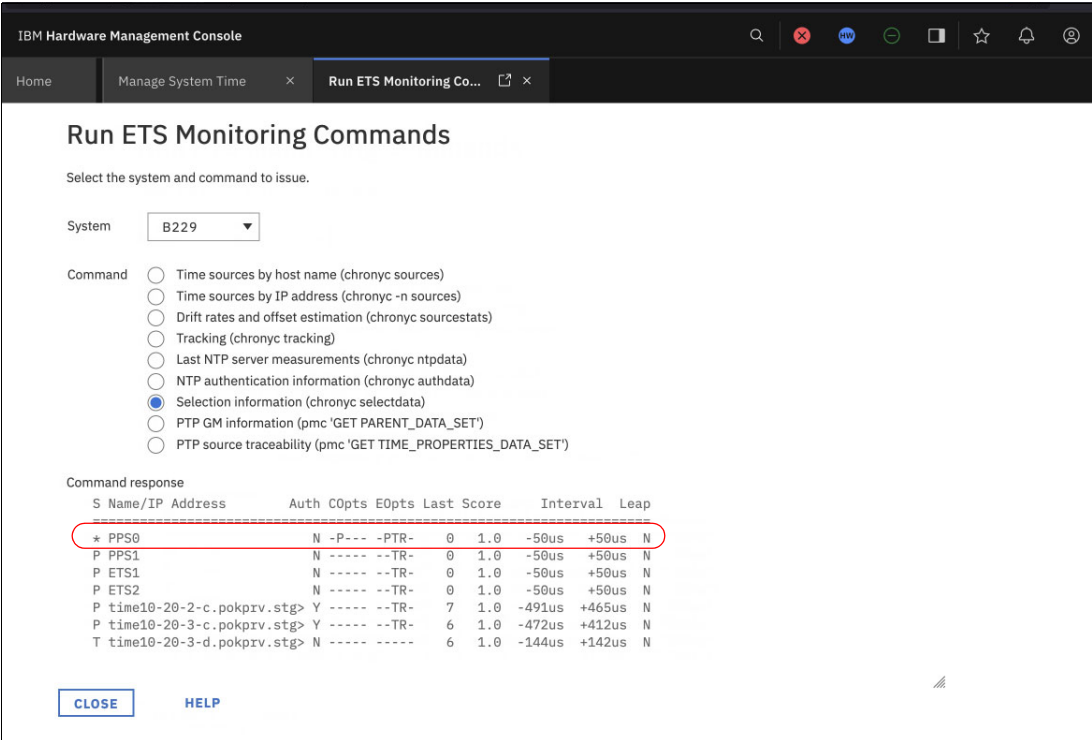

Figure 4-55 Selected time source displayed
7. Time source selection information is shown in Figure 4-55.